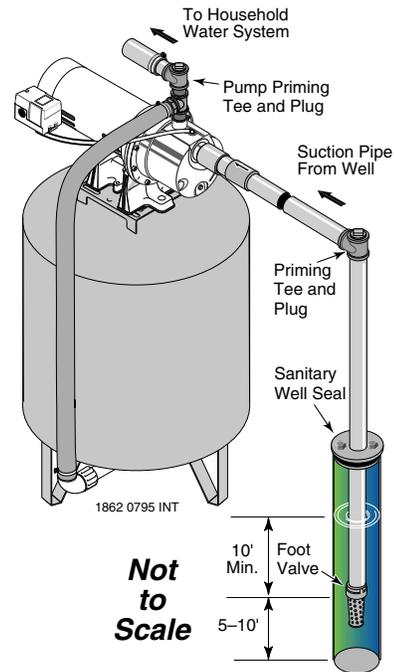

Figure 2: Cased Well Installation
CASED WELL INSTALLATION, 2" OR LARGER CASING (Figure 2)
2. Assemble the foot valve, strainer, and well pipe (see Figure 2). Make sure that the foot valve works freely.
4. Install a priming tee, priming plug, and suction pipe to the pump (see Figure 2). Connect the pipe from the well to the pump suction port, using the fewest possible fittings – especially elbows – as fittings increase friction in the pipe (however, include a foot valve – see Figure 2). The suction pipe should be at least as large as the suction port on the pump. Use teflon tape or a teflon-based pipe joint compound on threaded pipe joints. Support the pipe so that there are no dips or sags in the pipe, so it doesn’t strain the pump body, and so that it slopes slightly upward from the well to the pump (high spots can cause air pockets which can air lock the pump). Seal the suction pipe joints with teflon tape or a teflon based pipe joint compound. Joints must be air- and water-tight. *If the suction pipe can suck air, the pump cannot pull water from the well.*